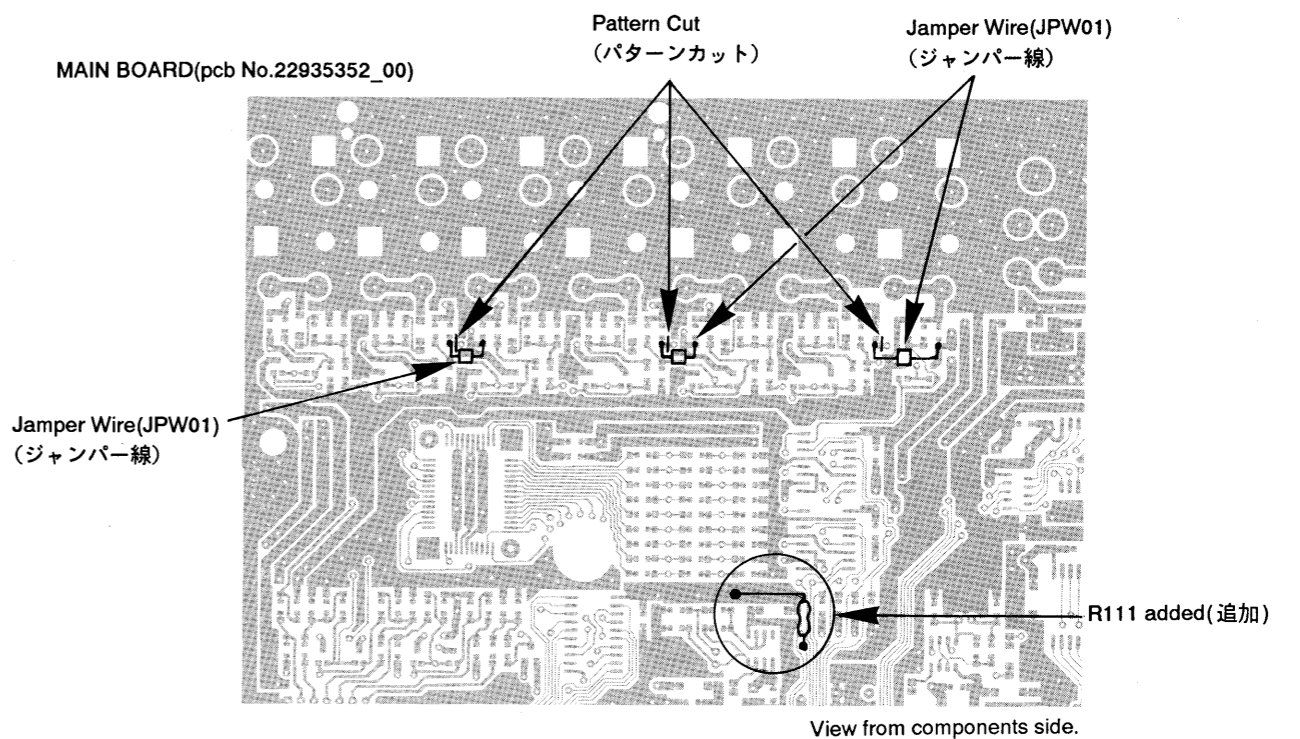

Fig.1.(図1)
- A wiring pattern was cut. .... (See Fig.1)
- A jumper wire was added. .... (See Fig.1)
R111 4.7K Ω ..... (See Fig.1)
- パターンカット ..... (図1参照)
- ジャンパー線後付け ..... (図1参照)
R111 4.7K Ω ..... (図1参照)